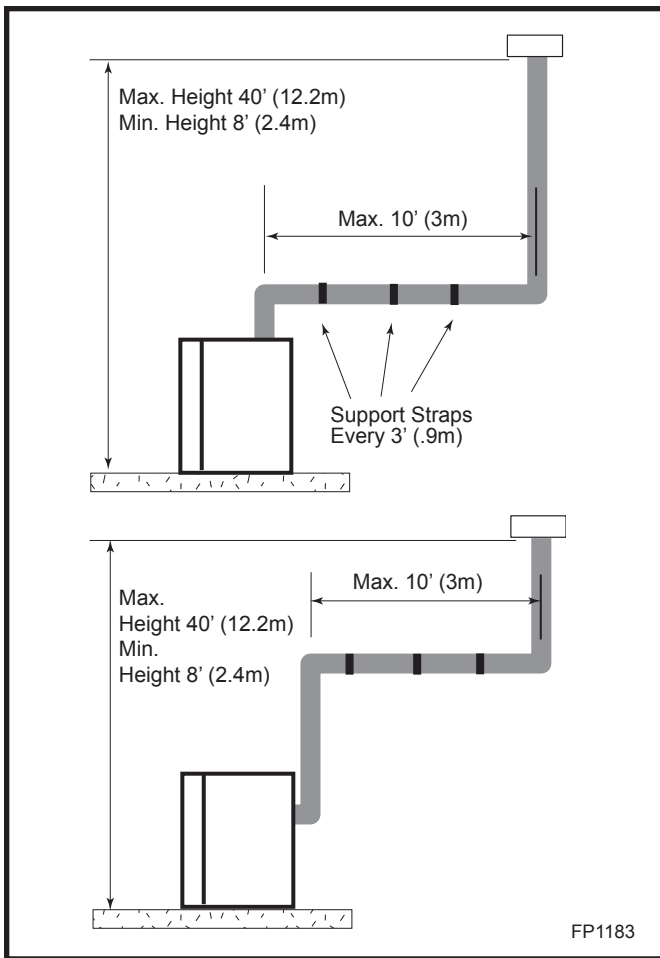

Fig. 41 Support straps for horizontal runs.
- Vertical installations up to 40' (12 m) in height. Up to a 10' (3 m) horizontal vent run can be installed within the vent system using a maximum of two 90° elbows. (Fig. 41)